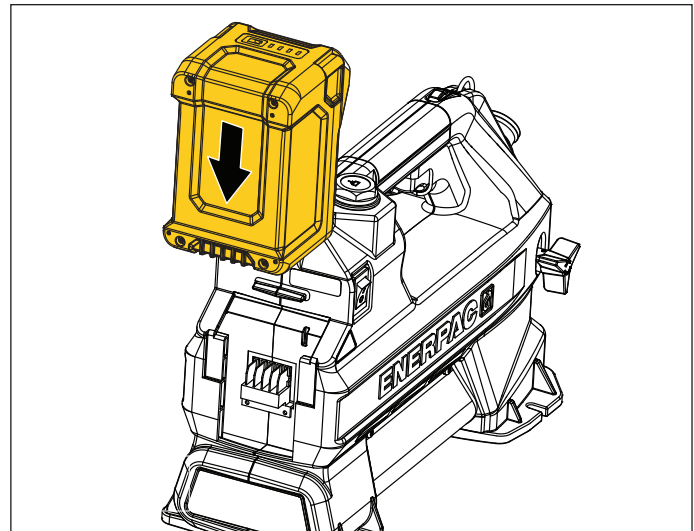

Figure 6: Battery - Install
- **To install battery on pump:** Slide the battery down onto the battery interface at the rear of the pump. Make sure it latches securely into place. See Figure 6.